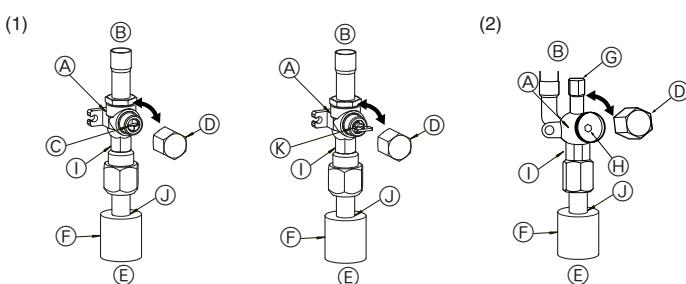

Fig. 4-5
(1) Gas side of RP60-140 (Fig. 4-5)
① Remove the cap, then turn one-quarter rotation counter-clockwise with a flat-bladed screwdriver to complete open.
② Check that the valves are fully open, then return the cap to its original state and tighten it down.